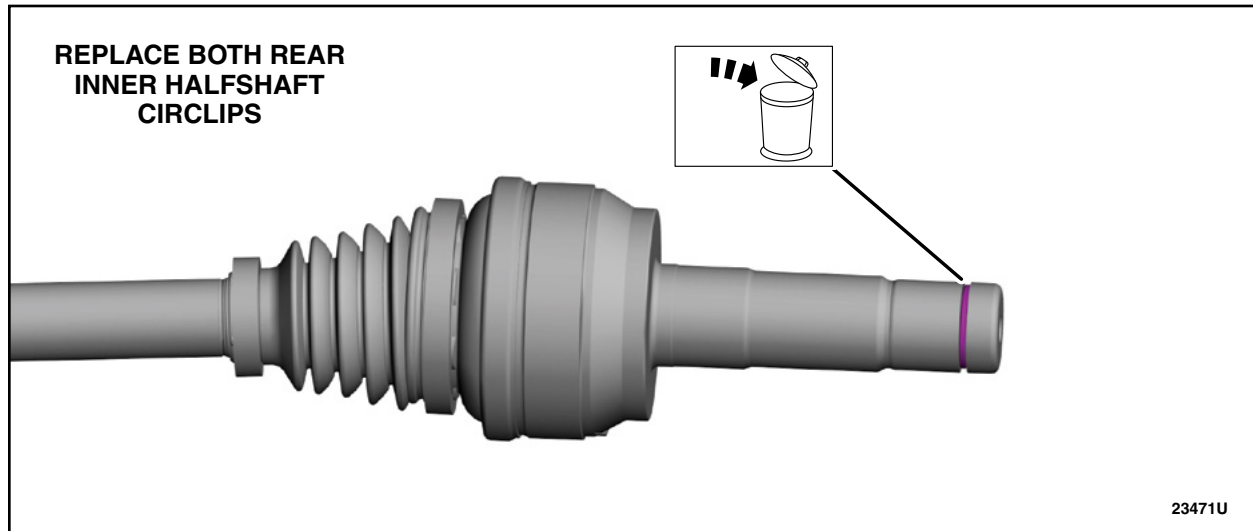

FIGURE 20
27. Remove and discard both rear inner halfshaft circlips. Then, install *new* circlips onto both rear inner halfshafts. See Figure 20. Then, proceed to the next Step.